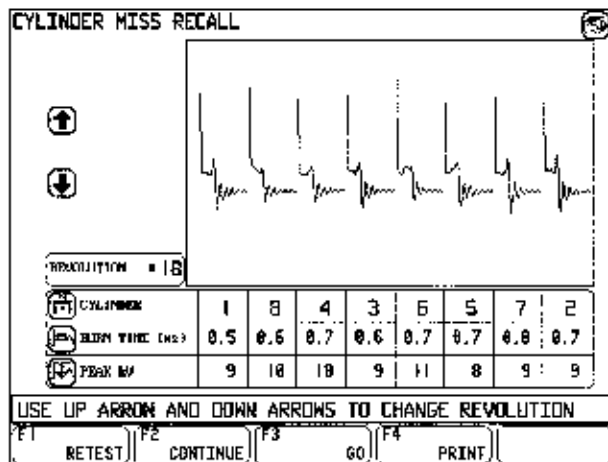

Figure 2-19
3. The "Cylinder Miss Recall" screen appears (see Figure 2-19). As the computer gathers the required information the prompt "Collecting Ignition Patterns" appears. Follow the screen prompts and press: